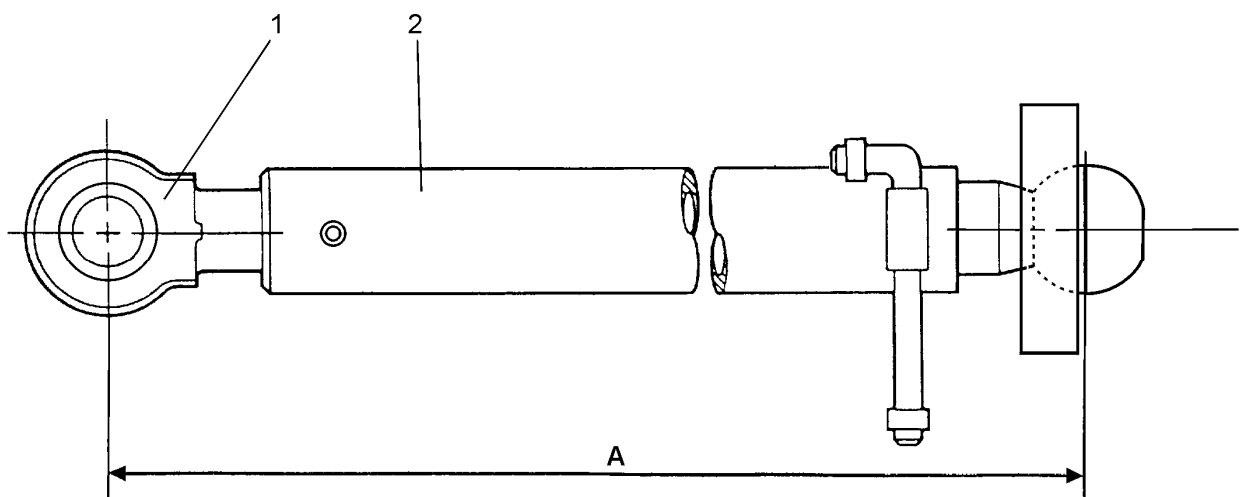

Fig. 17.6. Upper Strut Adjustment
3. Remove the eye bolt (1, Fig. 17.6) from strut (2).
1. Install the eye bolt (1, Fig. 17.6) on strut (2).
2. Adjust the upper strut to nominal mounting length 1383 [mm] (Fig. 17.6).